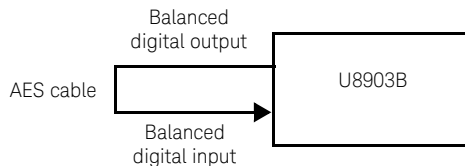

Figure 4-4 U8903B balanced digital output to its own balanced digital input for balanced input sampling rate accuracy verification
- 11 Connect the U8903B Balanced digital output to its own balanced digital input using the AES cable as shown in **Figure 4-4**.